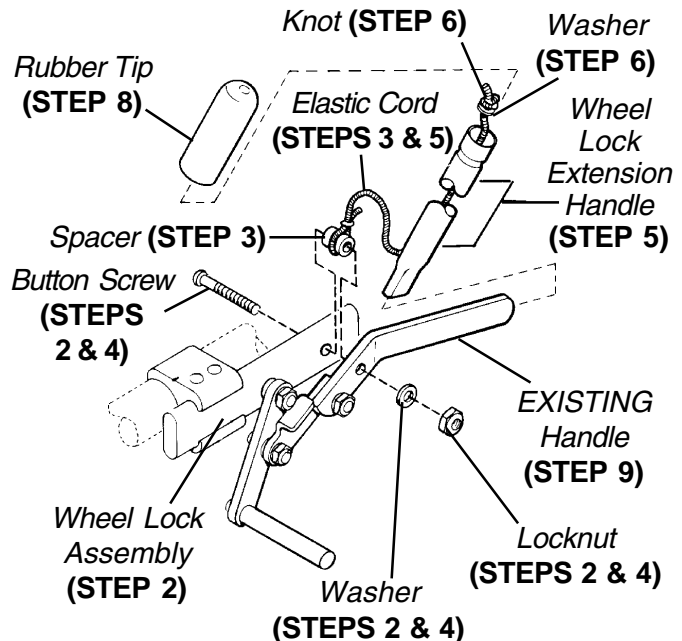

FIGURE 1 - INSTALLING THE WHEEL LOCK EXTENSION HANDLE
### INSTALLING THE WHEEL LOCK EXTENSION HANDLE (FIGURE 1)
6. Run the cord through the washer and tie a knot above the washer as shown in **FIGURE 1**.